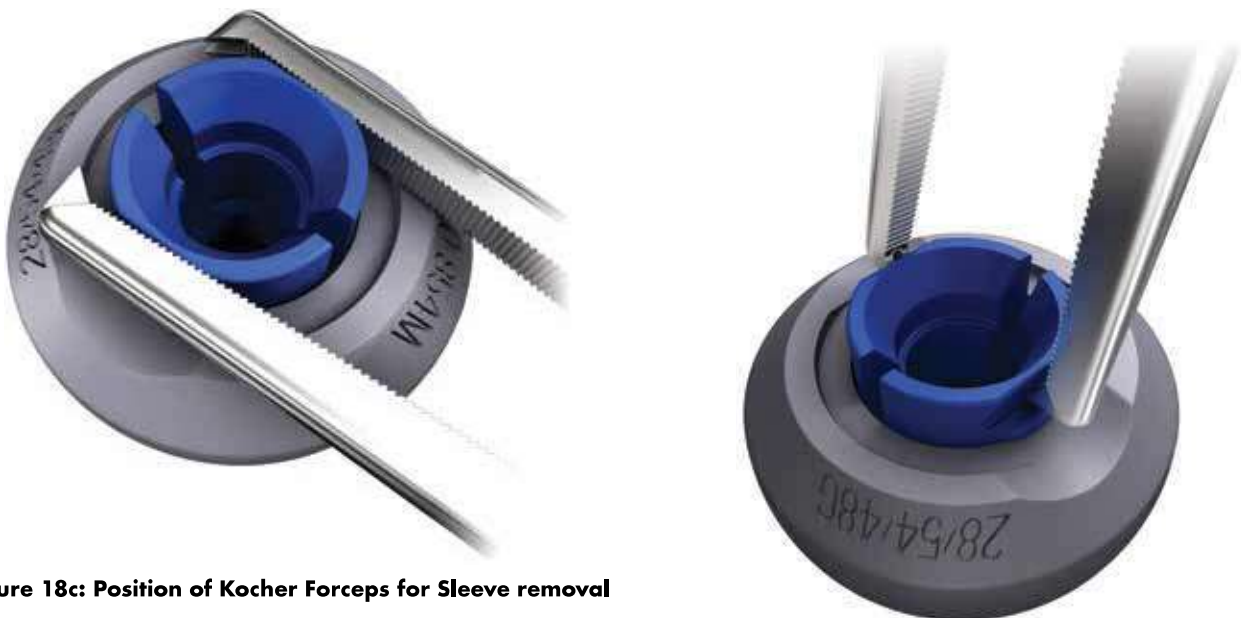

Figure 18c: Position of Kocher Forceps for Sleeve removal
- Once hip stability and leg length have been checked, the Dual Articulating or Monopolar Trial assembly can be removed from the neck trial or trunnion as one unit. If using the Monopolar Trials, the Trial Sleeve can then be removed from the Insert Trial with the assistance of standard Kocher forceps by squeezing the Trial Sleeve and pulling it out of the Insert Trial (**Figure 18c**). This can also be accomplished by hand.